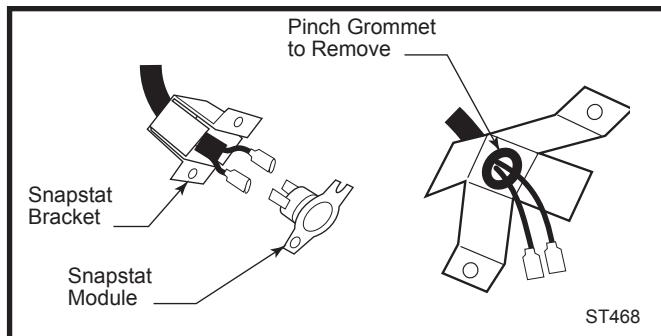

Fig. 6 Remove snapstat and grommet from bracket.
- Disconnect the snapstat module from the leads inside the snapstat bracket. (Fig. 6)